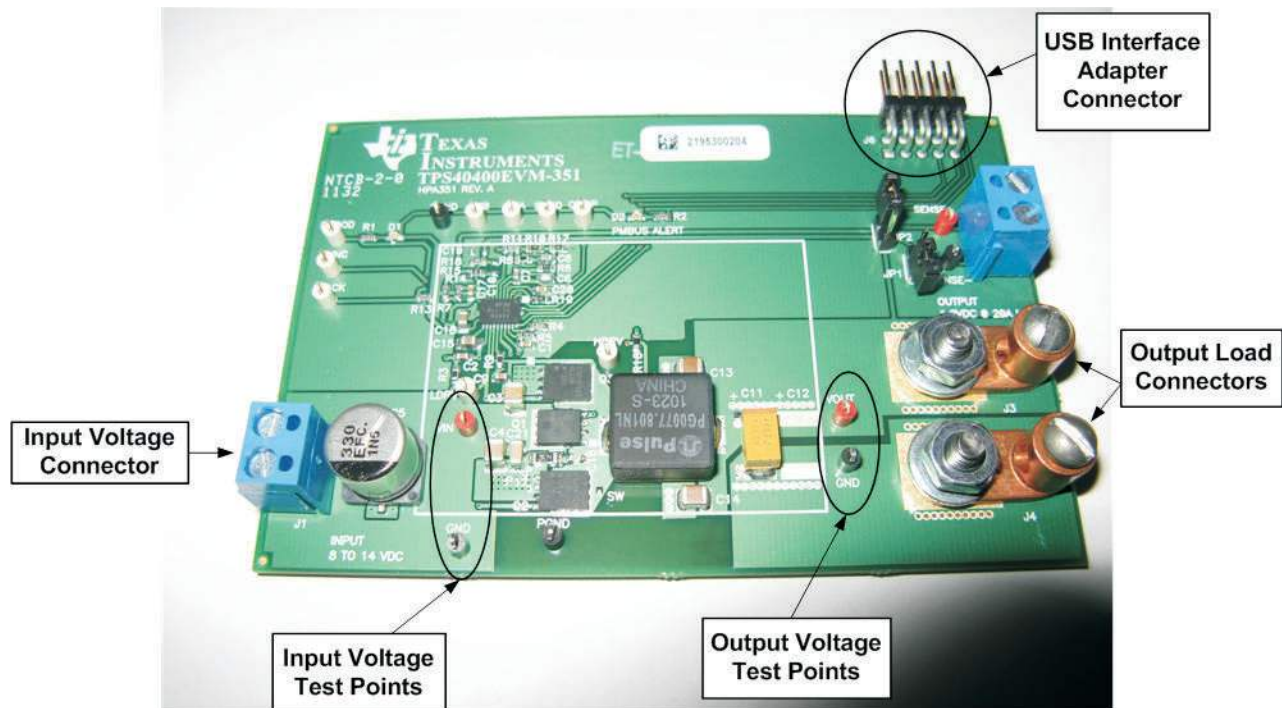

Figure 5-2. TPS40400EVM-351 Recommended Test Set Up
The input voltage source V_{IN} should be a 0-V to 14-V variable DC source capable of supplying 10 A_{DC} . Connect V_{IN} to J1 as shown in Figure 5-2.
Figure 5-2 is the recommended test set up to evaluate the TPS40400EVM-351. It is recommended to work at an ESD-safe workstation while testing the EVM.
1. Prior to connecting the DC input source V_{IN} , it is advisable to limit the source current from V_{IN} to 10 A maximum. Make sure V_{IN} is initially set to 0 V and connected as shown in Figure 5-2.
1. Set up EVM as described in Section 5.3 and Figure 5-2.